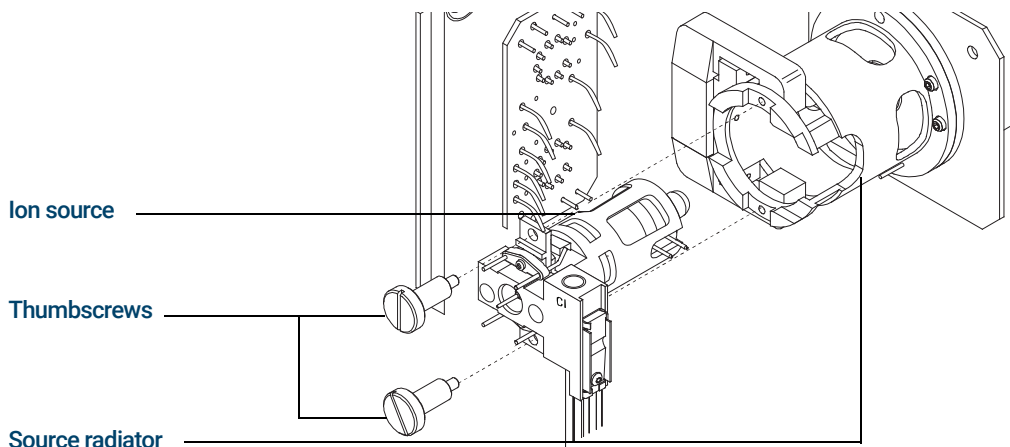

Figure 72. Installing the CI source
- 4 Install the thumbscrews. (See Figure 72.)